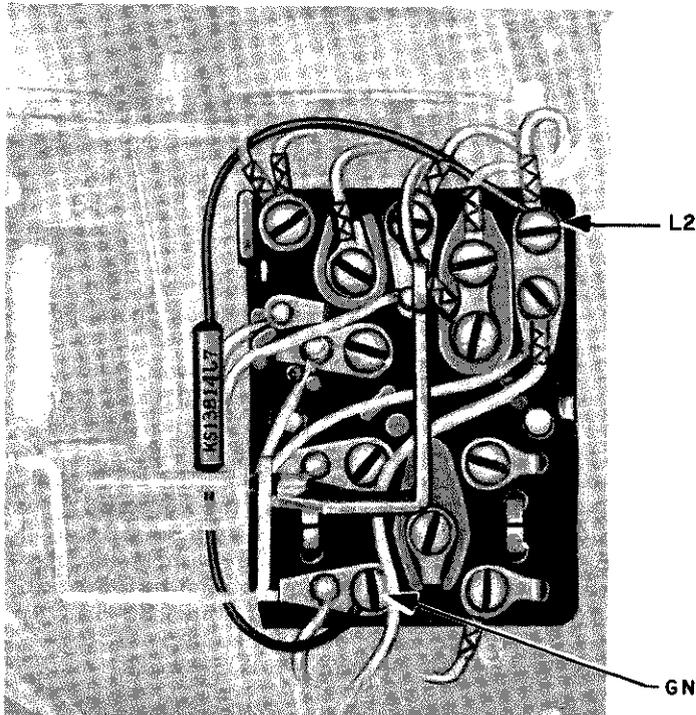

Fig. 4 - 500J, K or 501J, K Telephone Set,
2.04 The KS-13814, List 7 capacitor is installed in the 500J, K and 501J, K telephone sets as shown in Fig. 4. It is connected across the L2 and GN terminals of the 425A network as shown. Place the capacitor against the side of the network nearest the ringer. Cover the exposed portions of the capacitor leads with tubular insulation.